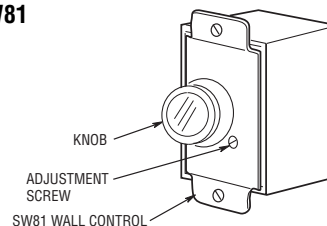

Figure 4
1. Turn the wall control "ON" using the knob on the SW81. Set the fan to "High" speed and allow the fan to run for 30 minutes to normalize the motor temperature (Figure 4).
2. It is recommended that the fans rotate at a minimum of 60 RPM on low speed to avoid stalling the motor. To adjust the fan RPM, locate the adjustment screw on the control's front panel (Figure 4). With a small flat blade screw driver, slowly turn the adjustment screw clockwise to decrease RPM and counter-clockwise to increase RPM. Turn the adjustment screw in small increments and allow the fan to speed up or slow down before making the next adjustment.